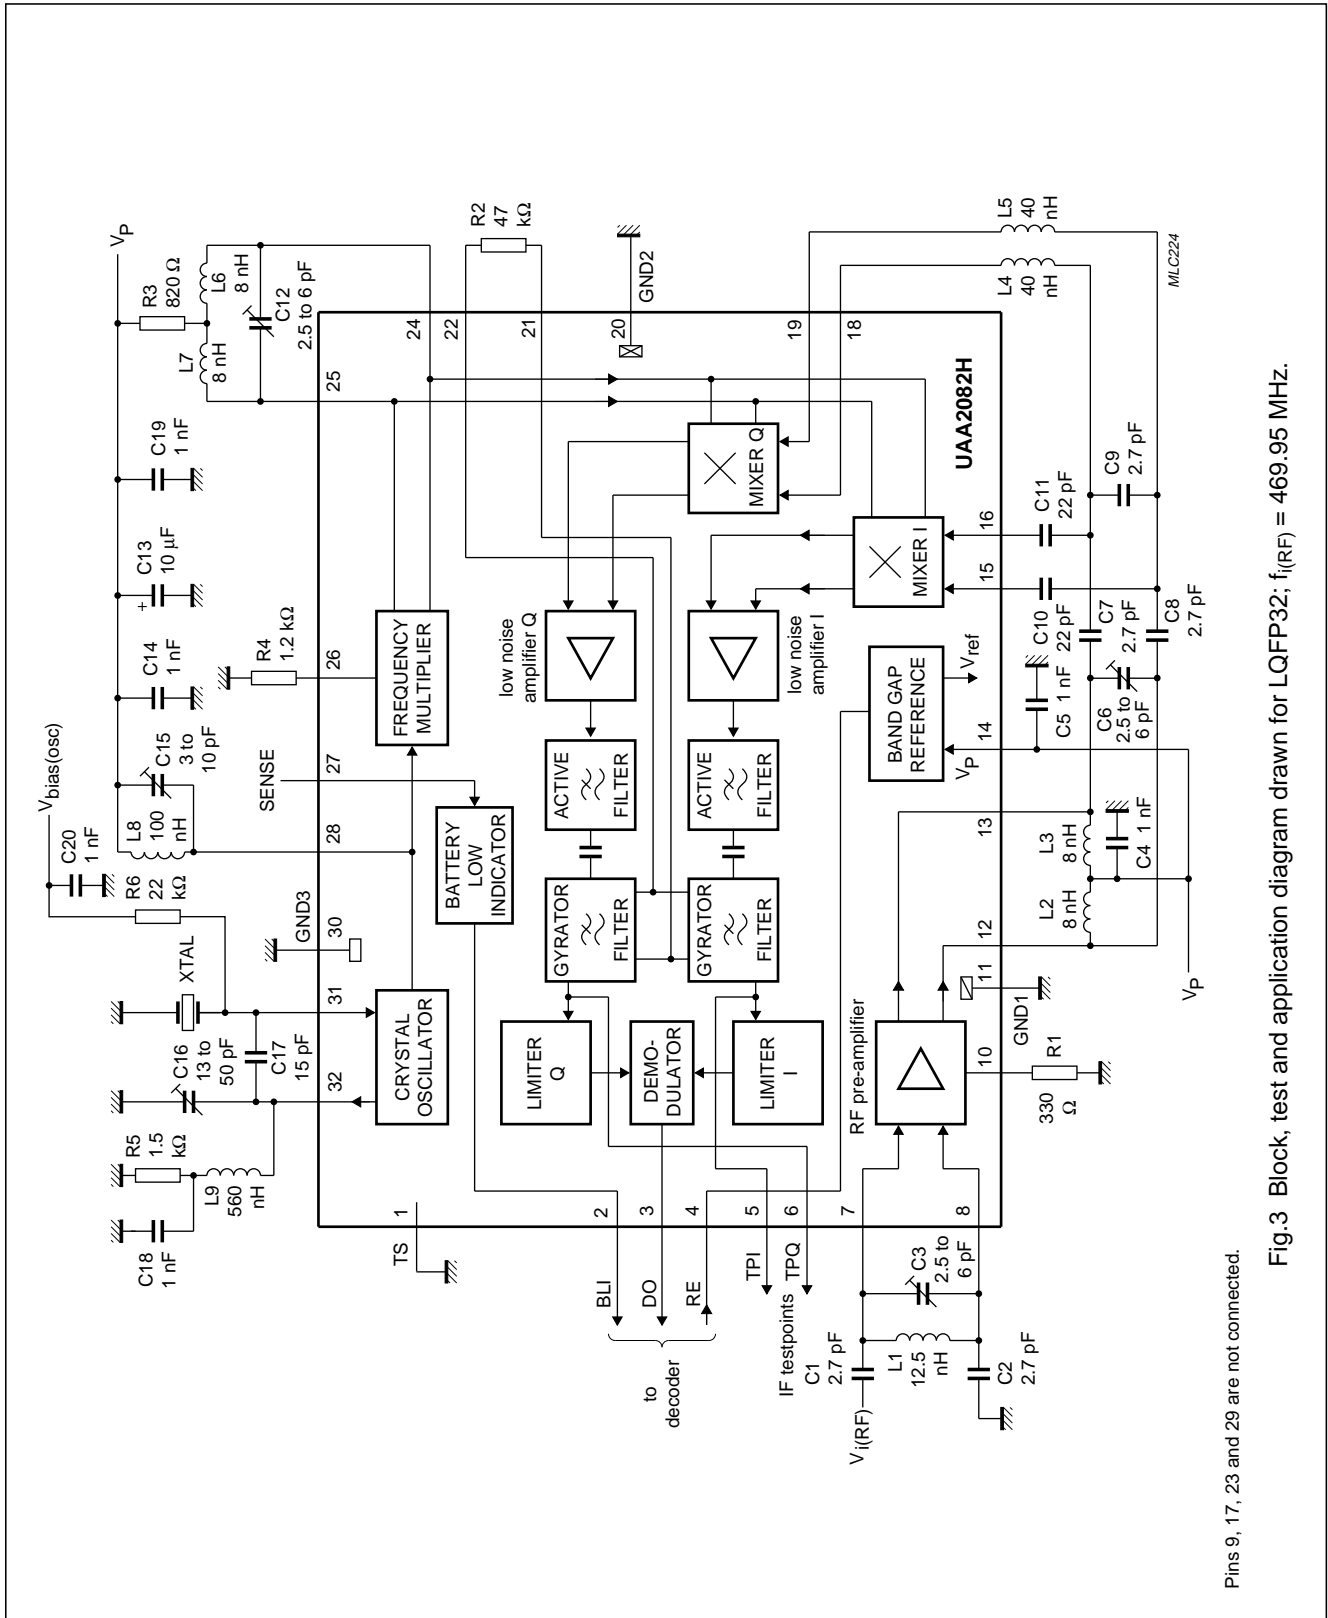

Fig.3 Block, test and application diagram drawn for LQFP32; fi(RF) = 469.95 MHz.
**Table 2** Tolerances of components shown in Figs 3, 4 and 5 (notes 1 and 2)